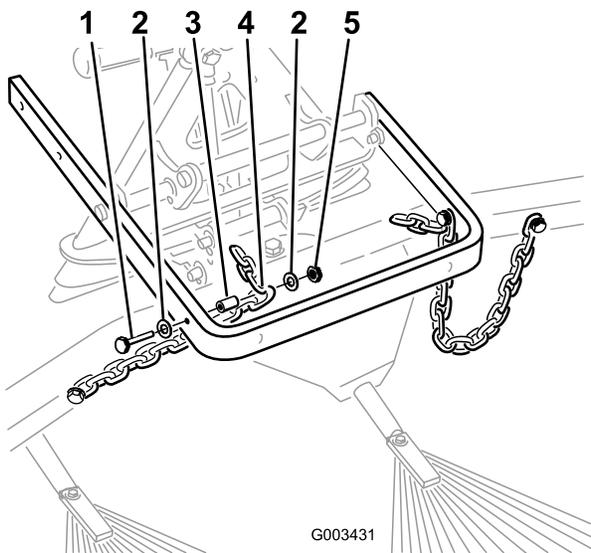

Figure 15
- Secure the third link of each chain to the inside of the lift arm using the bolts, washers, spacers, and locknuts previously removed (Figure 15).